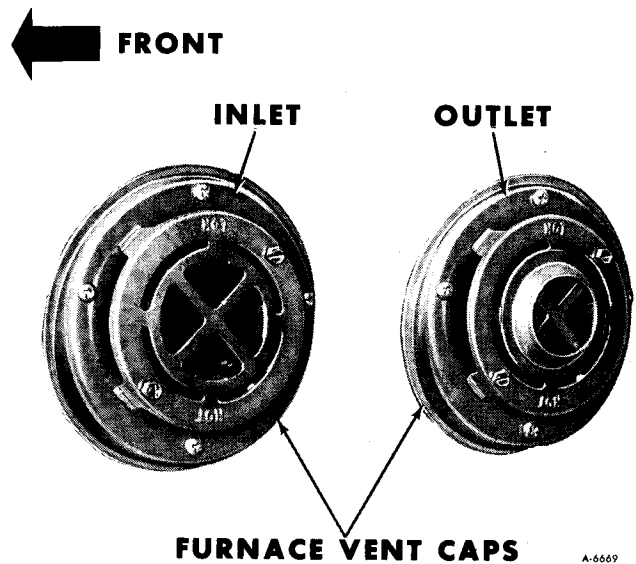

Figure 10—Furnace Vent Caps
NOTE: To aid in installation of combustion chamber assembly, remove inlet and outlet vent caps from outside of Motorhome (figure 10).
7. Carefully install furnace vent caps from outside of vehicle (figure 10).